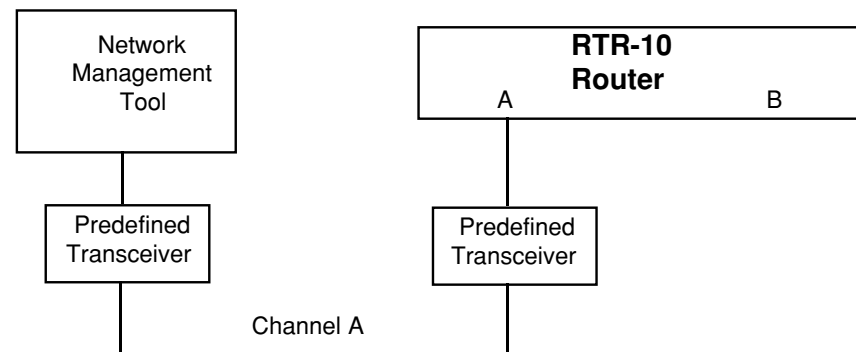

Figure 5.2 Configuring Side B
- 3 Attach a network services tool, such as LonMaker, with a compatible predefined transceiver to Channel A as shown in figure 5.2.